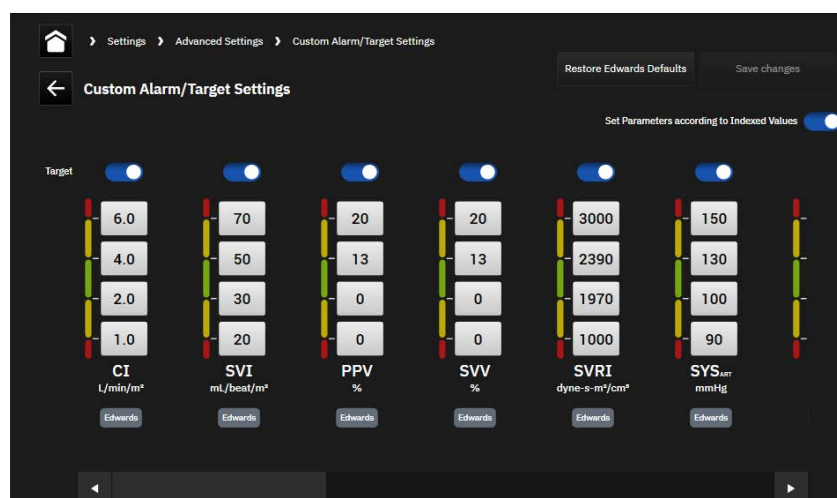

Figure 6-1 Custom Alarm/Target Settings screen
- 3 Use the toggle button to switch on “**Set Parameters according to Indexed Values**”. This will display all parameters and alarm/target values to their indexed values, if applicable. See figure 6-1.